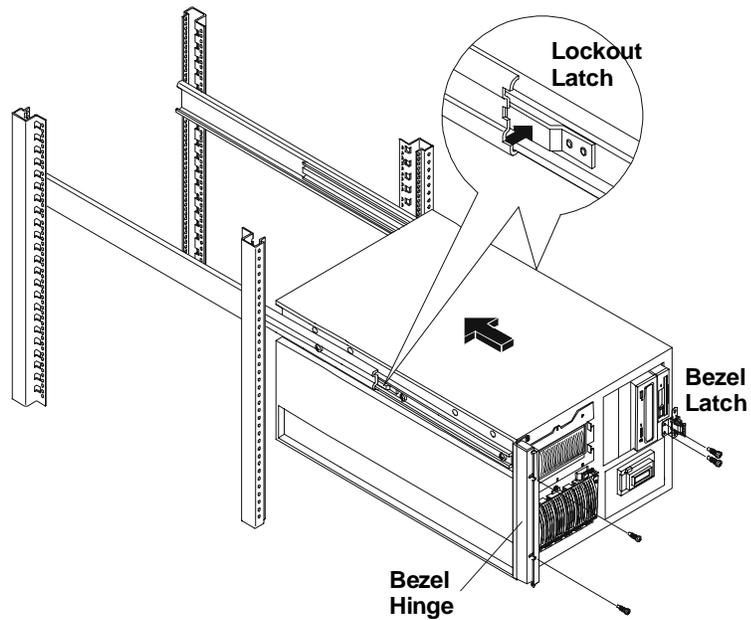

Figure 8-14. Slide Lockout Releases
3. Depress the slide lockout latches, and push the HP NetServer completely into the rack (see Figure 8-14).